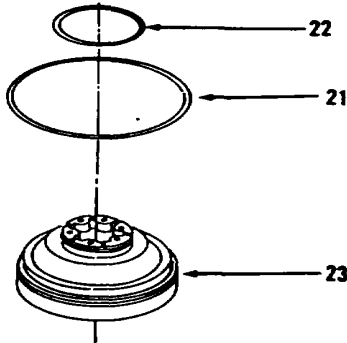

Figure 14-155.
- 20. Remove seals (21 and 22) from piston (23, Figure 14-155). Discard seals (21 and 22).